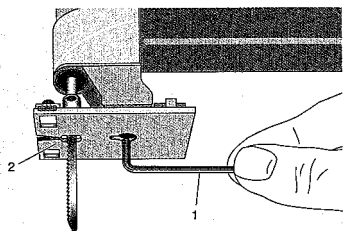

Fig. 3
1. Loosen clamp screw using the Allen key 1 (Fig. 3).
2. Adjust the saw plate (2) to the desired mitre angle and re-tighten the clamp screw.